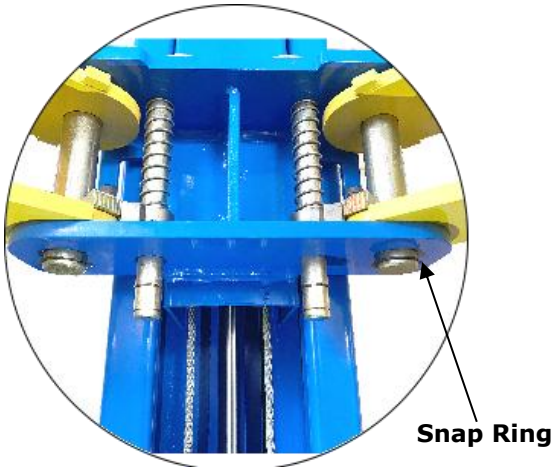

Fig. 36
1. Install the lifting arms (See Fig. 36).